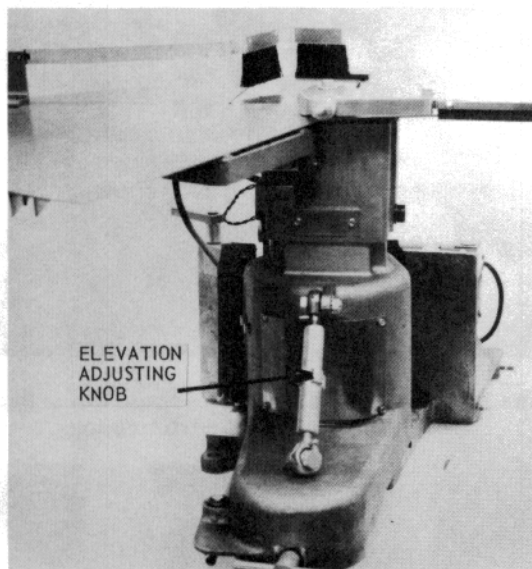

Figure 68 — Elevation Adjusting Knob Assembly Disconnected
- 6.1.4 Disconnect the elevation adjusting knob assembly (see Figure 68).